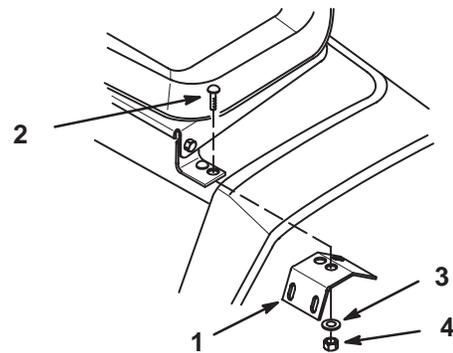

Figure 9
7. Remove the nuts from the left, seat bracket (Fig. 9).
9. Install the lift assist spring bracket on the under side of the left rear fender with the long angle of the bracket forward (Fig. 9). Secure it with the previously removed washers and nuts.